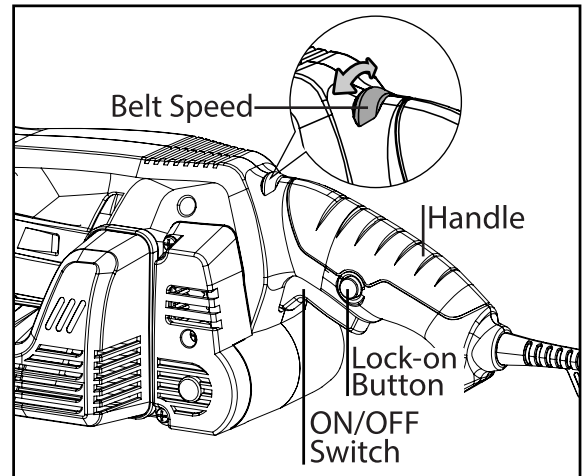

Fig. 4
(See Fig. 4 for these features)
2. Press ON/OFF switch and allow the motor to reach full speed. For continuous operation, press in the power lock-on button (Fig. 4) located on the side of the handle. (See above section "Power Lock-On")
**CAUTION:** If the sander makes an unfamiliar sound or vibrates excessively, switch it off immediately and disconnect from the power supply. Check your tool for any damages or misalignments. Contact our customer service at (800) 232-1195, M-F 8-5 CST or email [techsupport@wenproducts.com](mailto:techsupport@wenproducts.com) for assistance.